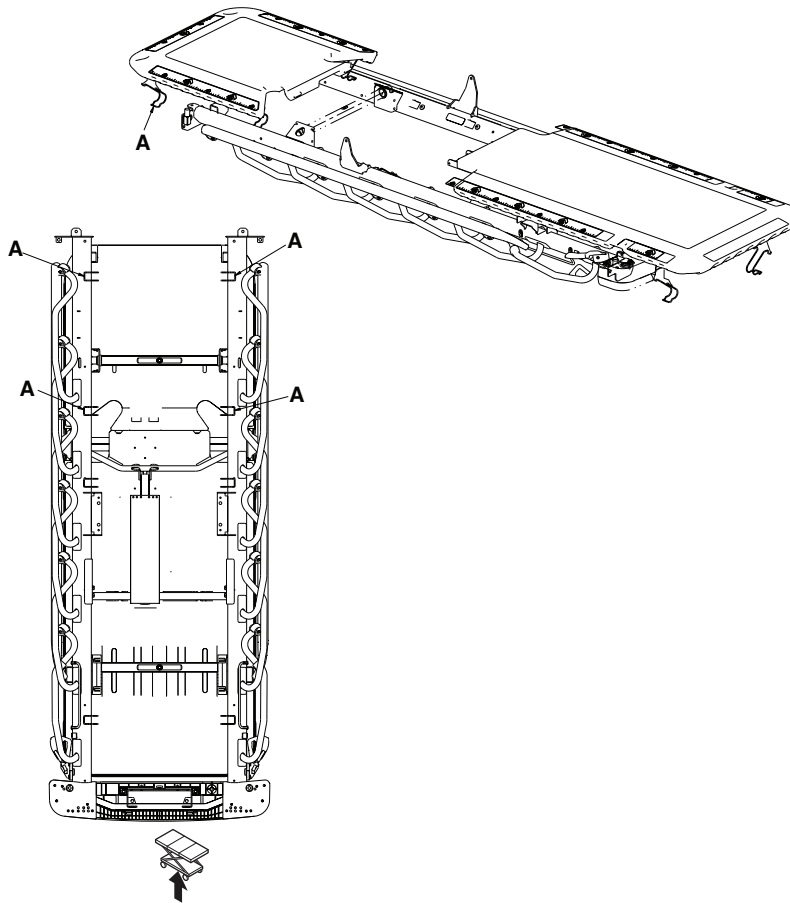

Figure 55 – X-ray panel replacement
- Unclip the four spring clips (A) (below the litter frame) that secure the head end X-ray cassette panel to the litter frame (Figure 55).